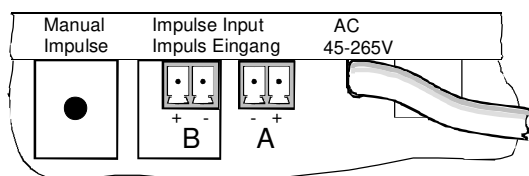

Fig. 6
- Connect impulse line from master clock system to one of the two plugs on top of the movements, e.g. plug **A** (Fig. 6 and 8).
- Change the polarity of the movement by moving the impulse line input from plug **A** to **B** (or reverse if B is connected, see Fig. 6).
- Connect impulse line from master clock to one of the two plugs on top of the new movement, e.g. plug **A** (Fig. 6 und 8).